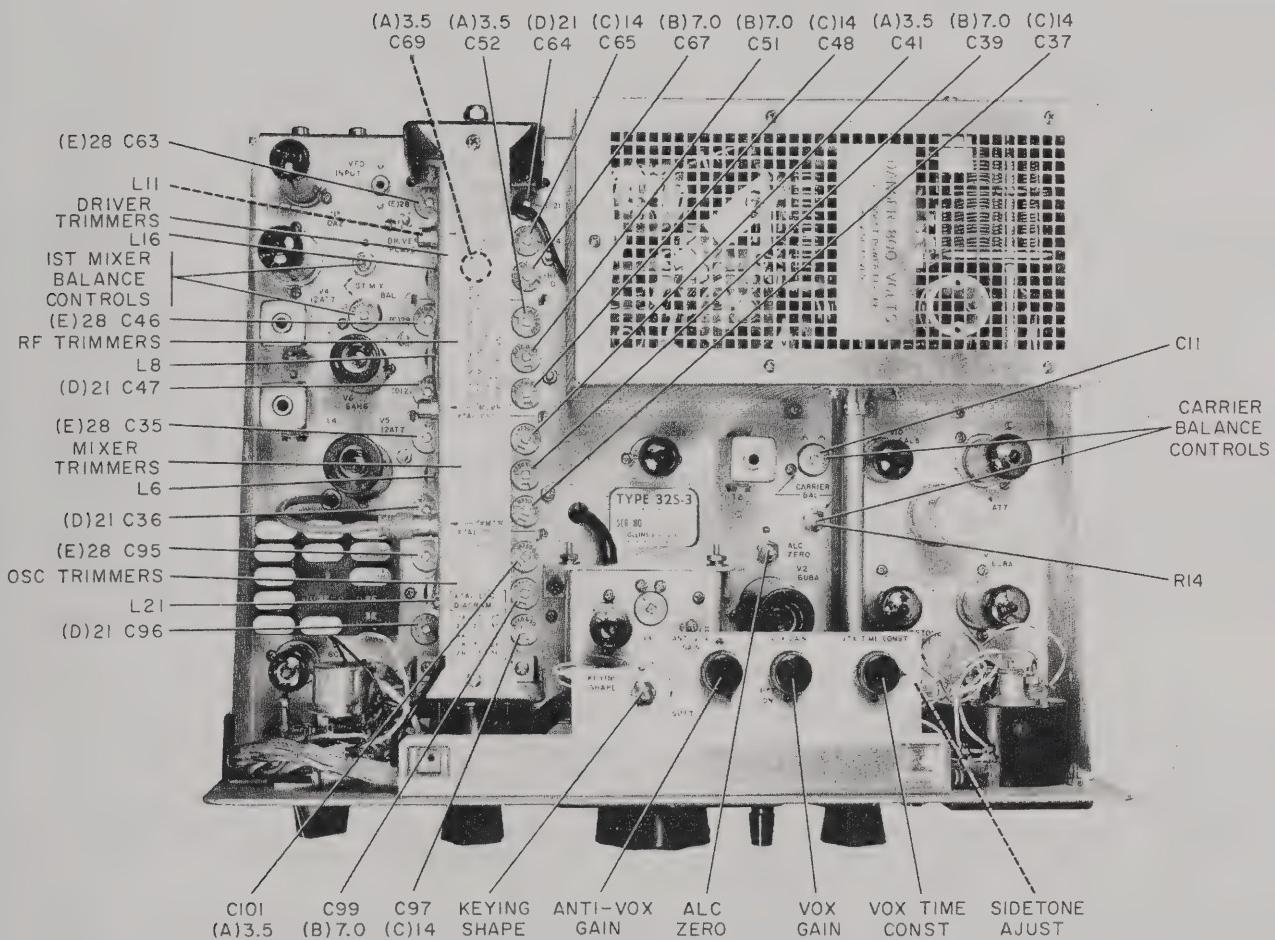

Figure 4-1. Location of Adjustments
Table 4-1 lists significant test points and normal signal levels. Figure 4-1 shows location of adjustments. Before making measurements, set EMISSION switch to USB, and disable the power amplifier by disconnecting screen and plate voltages from both tubes. Set the METER switch to P.A. GRID. Peak EXCITER TUNING, and turn VOX GAIN control counterclockwise until switch clicks. Connect signal generator output to test points indicated in table 4-1, and adjust signal generator output attenuator until PA grid current just begins to show on meter. Attenuator reading is signal voltage necessary at that point. Voltages given in the table are nominal and may vary plus or minus 20 percent. Be careful each time to set signal generator to frequency shown in table. Oscillator output voltage may be measured with a vacuum-tube voltmeter.
b. After a 5-minute warmup period, set EMISSION switch to TUNE and METER switch to P.A. GRID. Adjust MIC GAIN and EXCITER TUNING to produce midscale indication on meter. Set METER switch to P.A. PLATE, and dip plate current with P.A. TUNING. Reset METER switch to P.A. GRID. Peak the four (E)28 trimmer capacitors (C95, C35, C46 and C63) for maximum grid current. See figure 4-1 for trimmer locations.
c. Set BAND switch to 21.2 and tuning dial to 100. Adjust MIC GAIN and EXCITER TUNING for midscale grid current. Set METER switch to P.A. PLATE, and dip plate current. Reset METER switch to P.A. GRID. Peak the four (D)21 trimmer capacitors (C96, C36, C47, and C64) for maximum grid current.
d. Set BAND switch to 14.0 and tuning dial to 150. Adjust MIC GAIN and EXCITER TUNING for midscale grid current. Set METER switch to P.A. PLATE, and dip plate current. Reset METER switch to P.A. GRID. Peak the four (C)14 trimmer capacitors (C97, C37, C48, and C65) for maximum grid current.
e. Set BAND switch to 7.0 and tuning dial to 150. Adjust MIC GAIN and EXCITER TUNING for midscale grid current. Set METER switch to P.A. PLATE, and dip plate current. Reset METER switch to P.A. GRID. Peak the four (B)7.0 trimmer capacitors C99, C39, C51, and C67 for maximum grid current.
f. Set BAND switch to 3.6 and tuning dial to 100. Adjust MIC GAIN and EXCITER TUNING for midscale grid current. Set METER switch to P.A. PLATE, and dip plate current. Reset METER switch to P.A. GRID. Peak the four (A)3.5 trimmer capacitors C101, C41, C52, and C69) for maximum grid current.